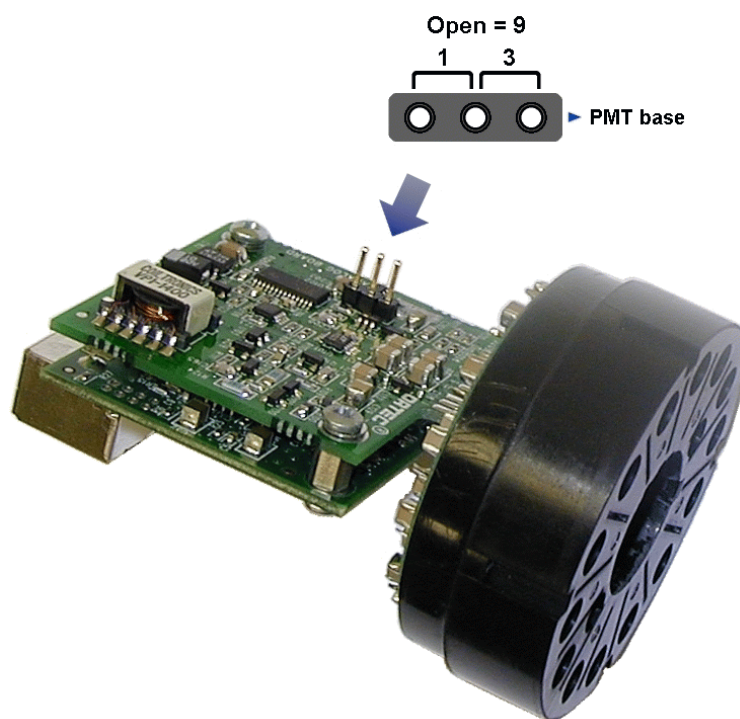

Figure 2. Setting the Coarse Gain Jumper.
- Orient the digiBASE such that the tube socket is to the right. In this orientation, when the jumper is on the left-most and center pins, the coarse gain is 1. When the jumper is on the right-most and center pins, the coarse gain is 3. The gain is 9 when the jumper is removed. These settings are illustrated in Fig. 2. To avoid losing the jumper in this high-gain setting, place it on just one of the pins at a 90° angle to the connector.